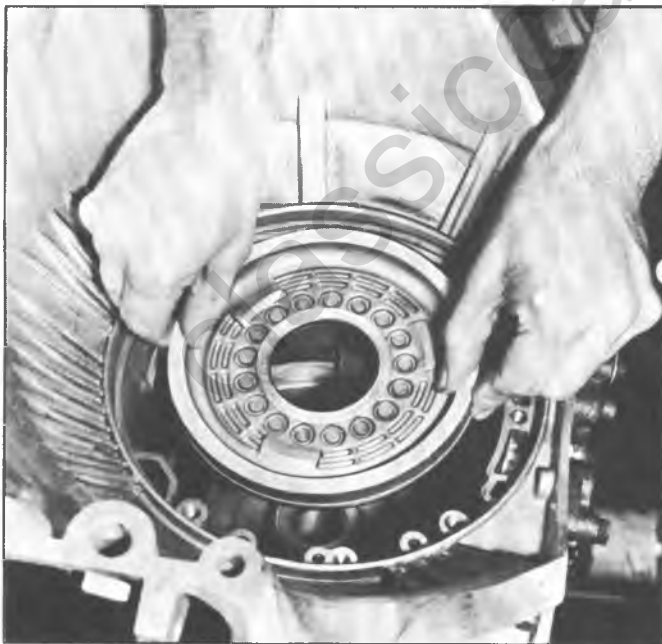

Fig. 29PG--Installing Reverse Piston
8. Install the inner and outer seals on the reverse piston and, lubricating the piston and case with transmission oil, install the piston into the case (fig. 29PG). If necessary, carefully slide a feeler gauge